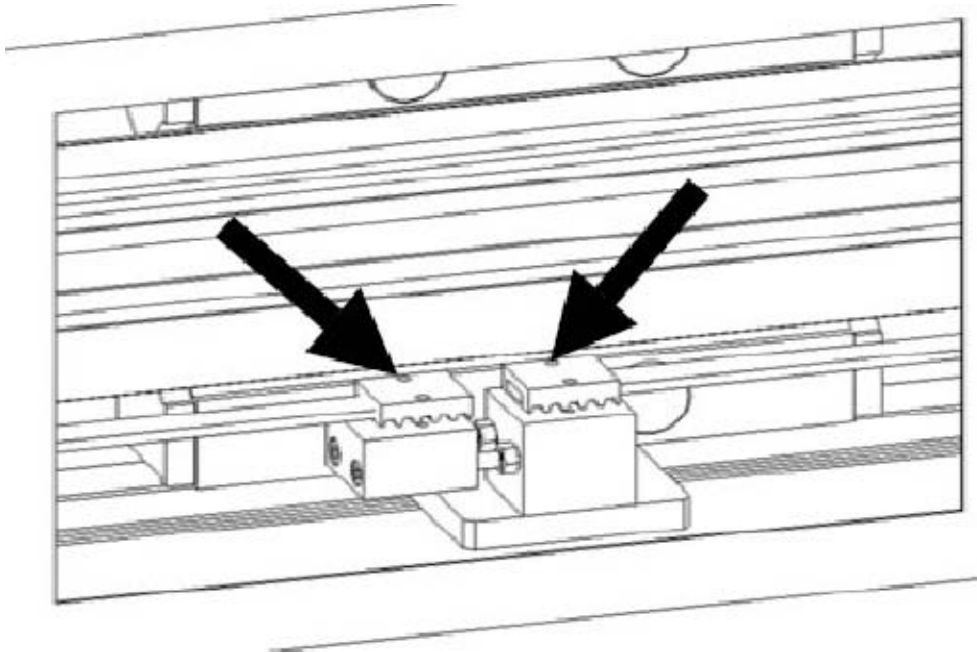

Fig. 5-24 Extracting the belt screws
4. See Figure 5-24. Remove the four belt screws from the belt clamp to allow removal of the belt.